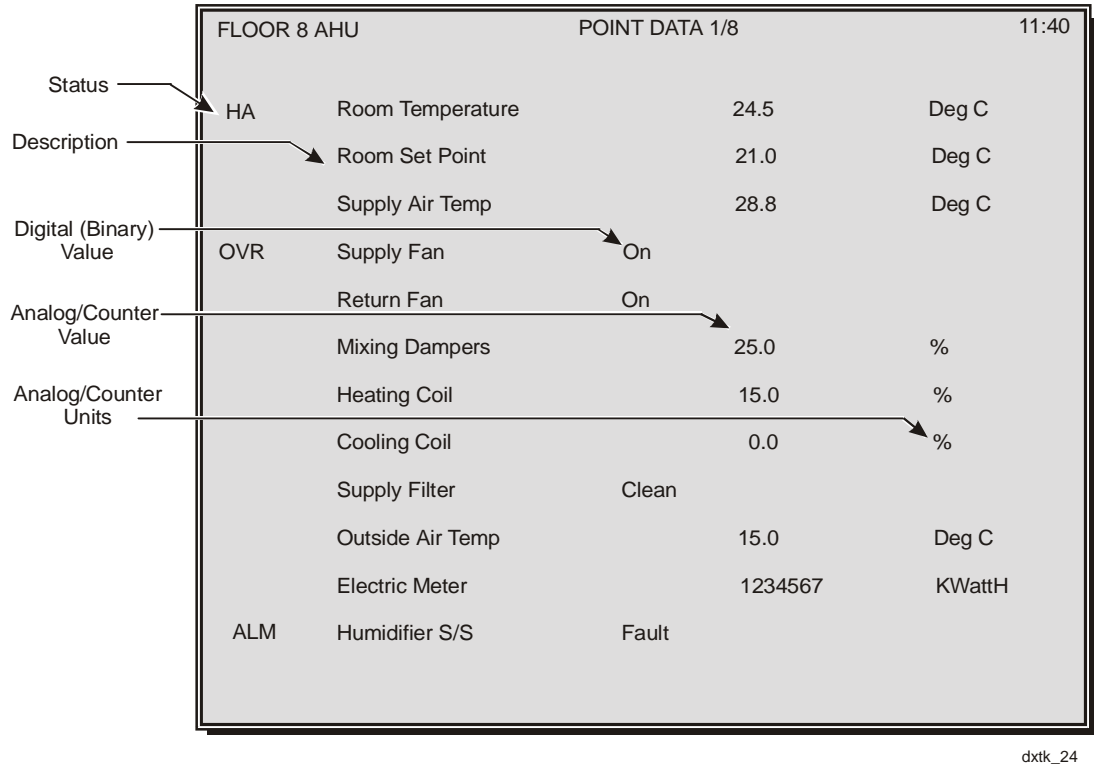

Figure 4-15: Point Data Screen
1. Select the Point Data option in the Main menu. The first of up to eight Point Data screens appears, as shown in Figure 4-15.
As indicated in Figure 4-15, the data shown for each point is: